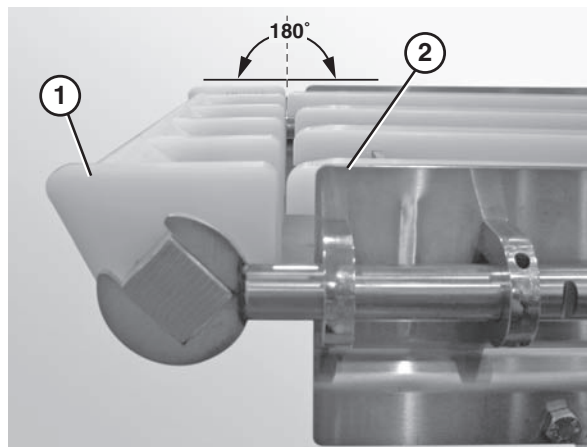

Figure 15
5. Ensure that the nose bar pucks (**Figure 15, item 1**) are in line with the conveyor frame (**Figure 15, item 2**).